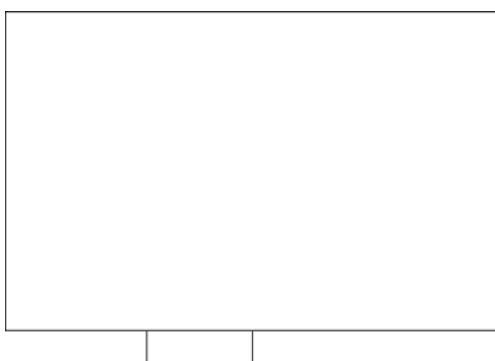

FIGURE 4.9 The pop-out added to the cabin
3. Enter **0,-2' (0,-610) 6',0' (1830,0) 0,2' (0,610)**. Your screen should look like Figure 4.9.